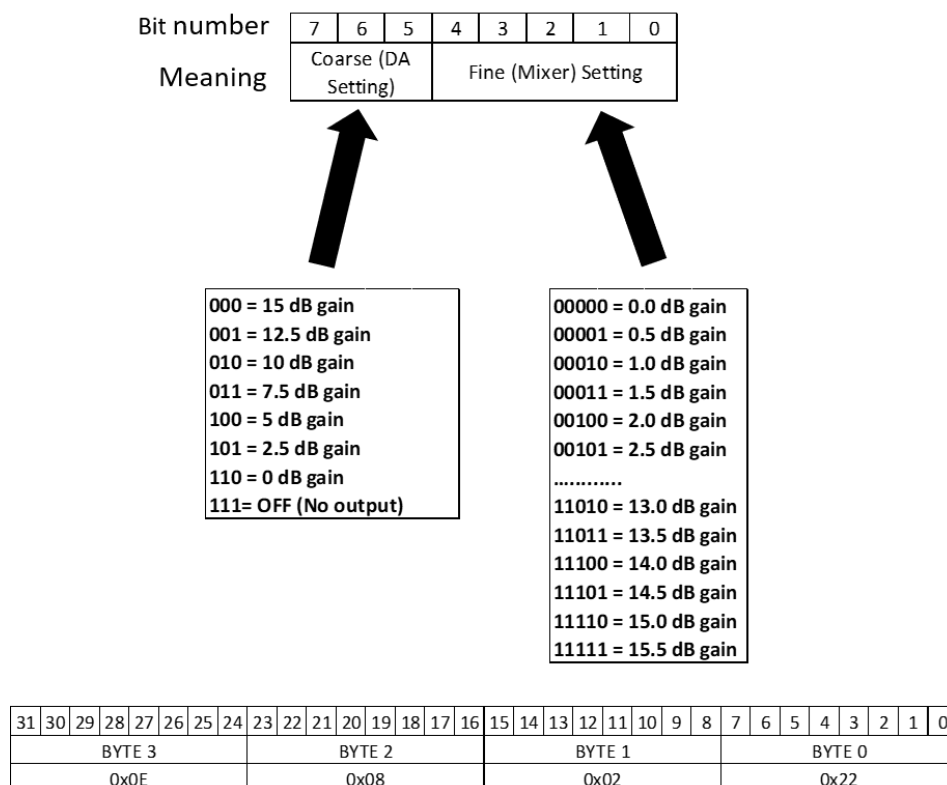

Figure 10: Structure of the 8-bit transmit power control byte
In both modes of operation, each of the 8-bit bytes in the register has the same structure as outlined in Figure 10 below. The most significant 3 bits control the operation of the Driver Amplifier (DA) just prior to the DW1000 RF output. The five least significant bits control the gain of the mixer in the transmit strip in which the baseband pulse train is mixed up to the carrier frequency for the selected channel.